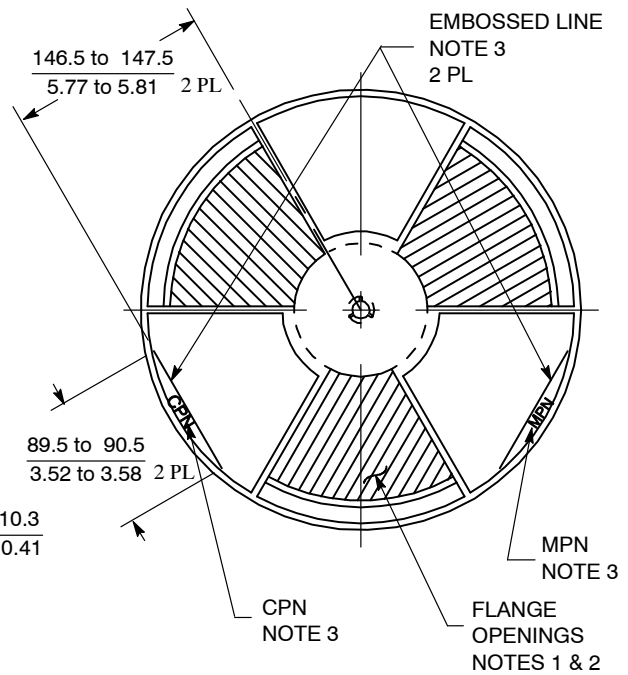

Figure 47. Front View of 330 mm (12.99 in) Reel
- If there are any flange opening on the front flange of the 330 mm (13.0 in) reel they must be designed in locations so that two of the 41.3 mm (1.65 in) by 125 mm (4.90 in) ON Semiconductor barcode labels can be applied parallel to each other as in Figure 47.